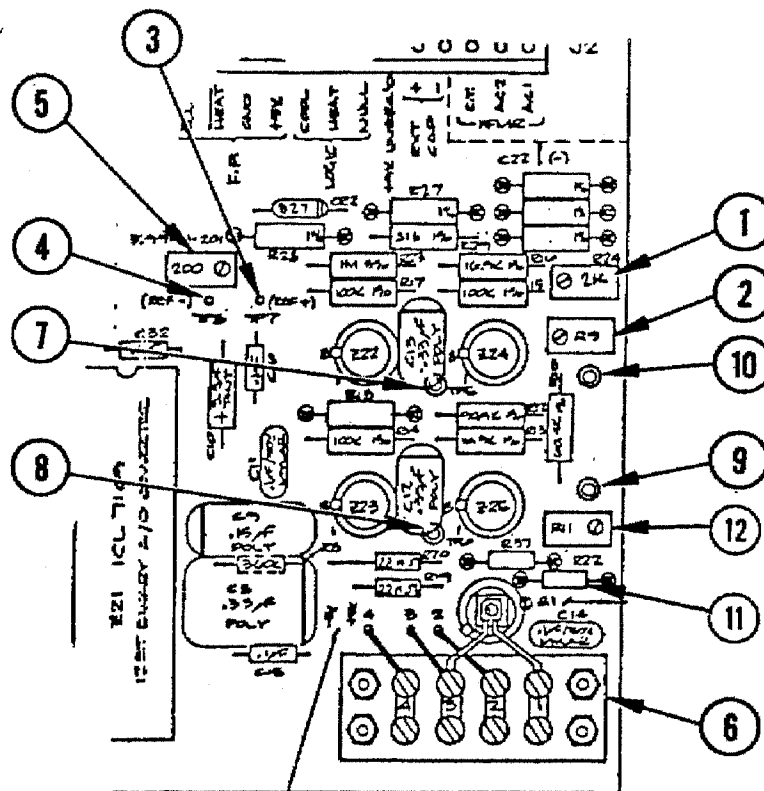

Figure 6-3. Controller Calibration Points.
5. Adjust ambient potentiometer R24 (Figure 6-3, Item 1) until the PROCESS display reading matches that of the calibrator.
3. Adjust ambient potentiometer R24 (Figure 6-3, Item 1) until the PROCESS display reading matches that of the current source.
1. Connect the voltmeter to TP7 (positive) and TP8 (negative) on the controller PCB (Figure 6-3, Items 3 & 4).
1. Short the thermocouple input by placing a jumper across either TB1 (Figure 6-3 Item 6) pins 2 and 3 or TP5 and TP6 (Items 7 and 8) on the controller board.